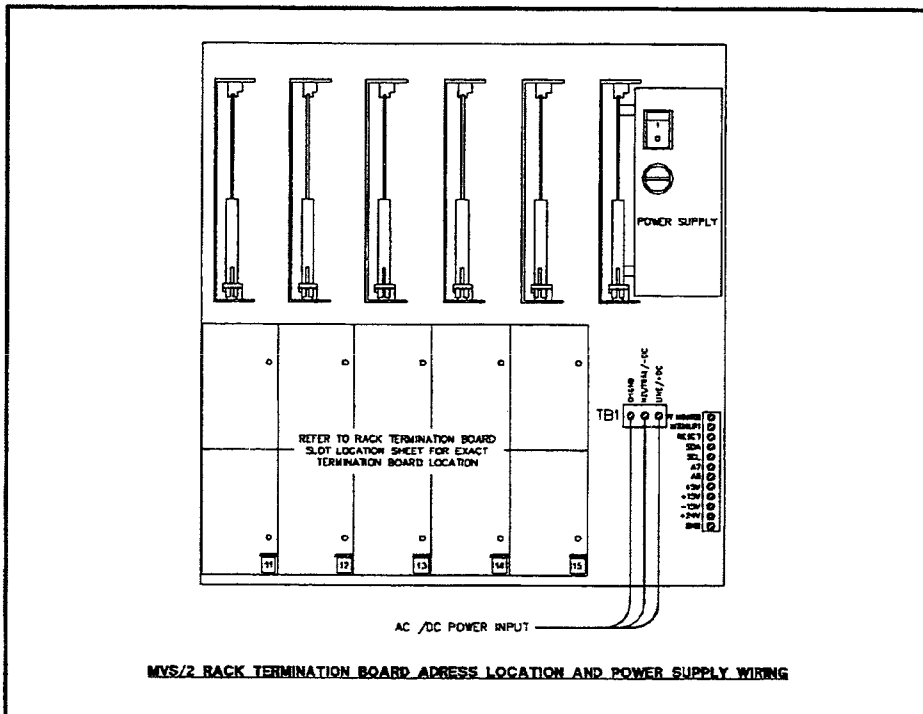

Figure 2-4. Wiring AC Power to the Multi-Vessel System/2.
1. Route the cable from the power source to TB1 on the Backplane PCB. (Refer to Figure 2-4 for TB1 location.)